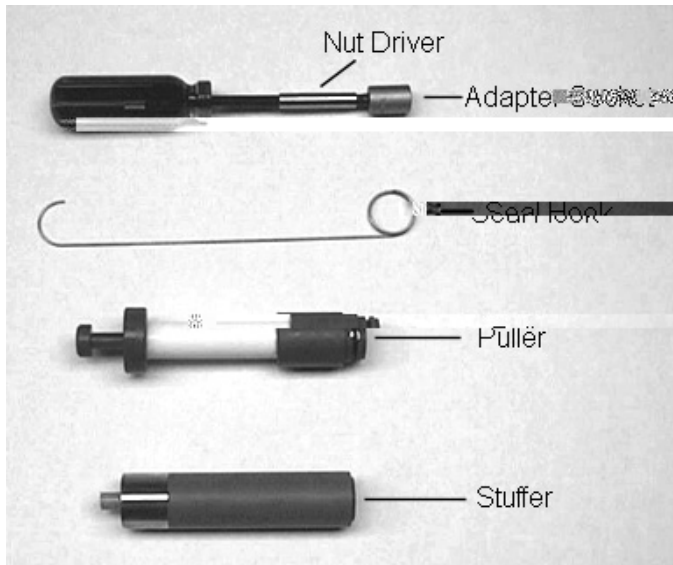

FIGURE 5
11. Turn the handle clockwise until the handle is in the "ON" position (see Figure 5). The handle should be turned until the handle is in the "ON" position. The handle should be turned until the handle is in the "ON" position.